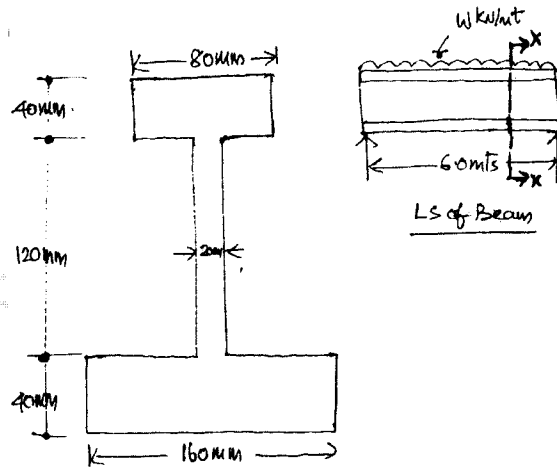

Fig. Q7(b)
- b. The cross section of east iron I section is shown in Fig. Q7(b). if tensile stresses is not exceed 30 N/mm^2 and compressive stress is not to exceed 90 N/mm^2 . What is the maximum udl the beam can carry over a simply supported beam of span 6 mts. (10 Marks)